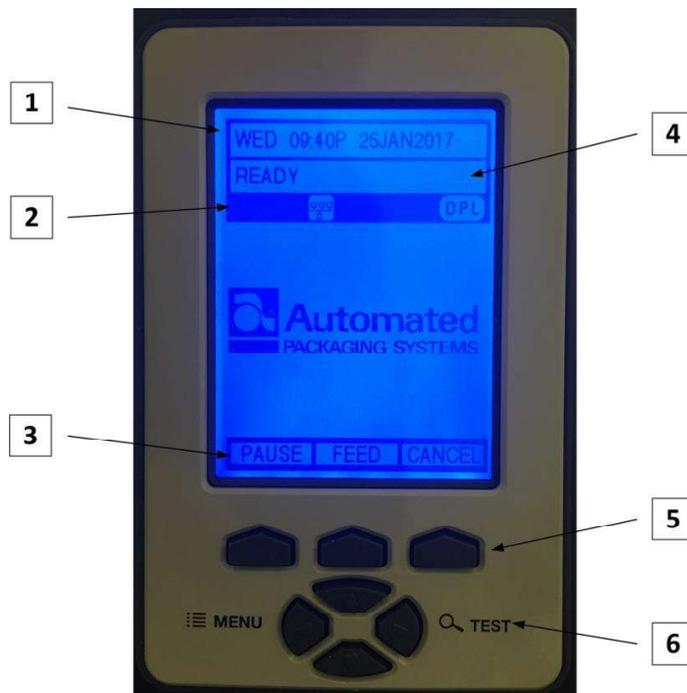

FIGURE 3-62. PRINTER DISPLAY STATUS LINE
1. Look for the READY status. The imprinter display status line, shown in Figure 3-62, displays READY when the unit is waiting for a label to be loaded.